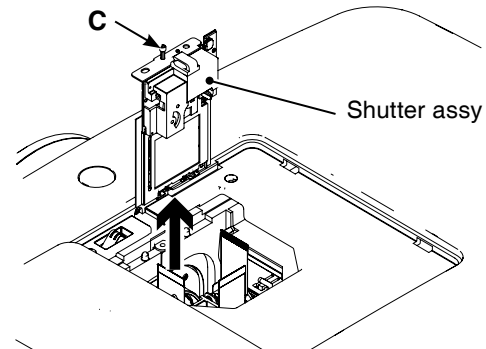

Fig. 3
- 3** Loosen a screw-C and take the shutter assembly off (Fig. 3).